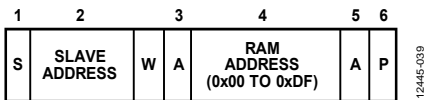
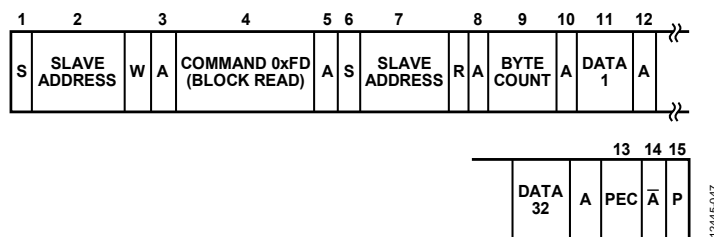

Figure 41. Setting a RAM Address for a Subsequent Read
Figure 49. Block Read from the EEPROM or RAM with PEC
The SMBus specification defines several protocols for different types of read and write operations. The following abbreviations are used in Figure 41 to Figure 49:
- To write a register address to the RAM for a subsequent single-byte read from the same address, or for a block read or block write starting at that address, as shown in Figure 41.
See the SMBus Version 1.1 specification for details. An example of a block read with the optional PEC byte is shown in Figure 49.